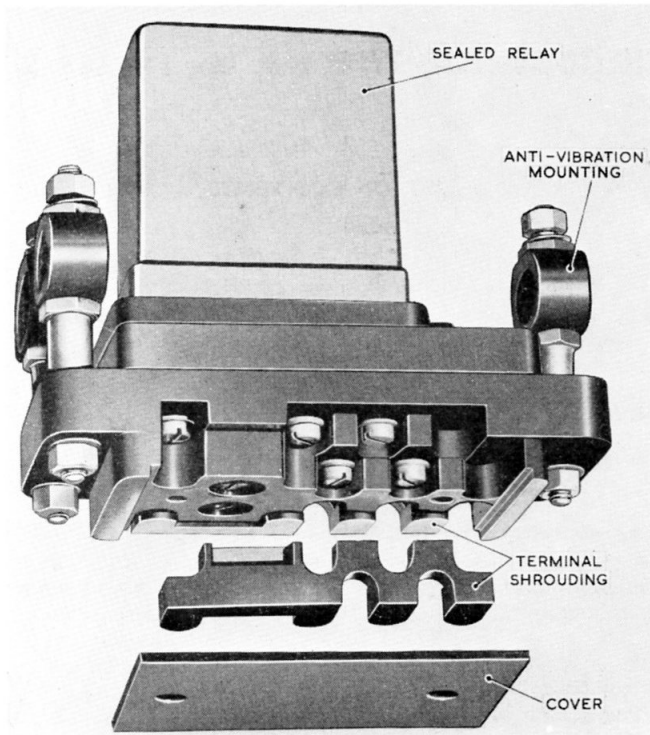

Fig. 1. Magnetic switch, Type 16B, No. 1
2. This switch (*fig. 1*) consists of a sealed relay, Type M1095 (Inter-Service Ref. Z530032) secured to a moulded Bakelite base plate having shrouded 6 B.A. terminals. The switch is designed for panel mounting, and is provided with three anti-vibration mountings incorporating 4 B.A. fixing studs.